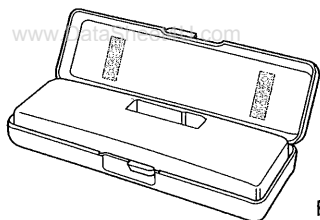

Fig. 22
3. Enclose for safekeeping the front panel that is removed in the supplied protective case. (Fig. 22)